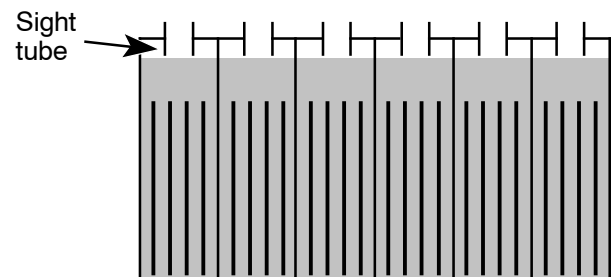

Fig. 3
- Check the fluid level of each battery cell. The level should be about 3mm (1/8") below the sight tubes. Add distilled water if low (Figure 3). DO NOT OVERFILL. If fluid level is too high remove some with a suction device such as turkey baster.